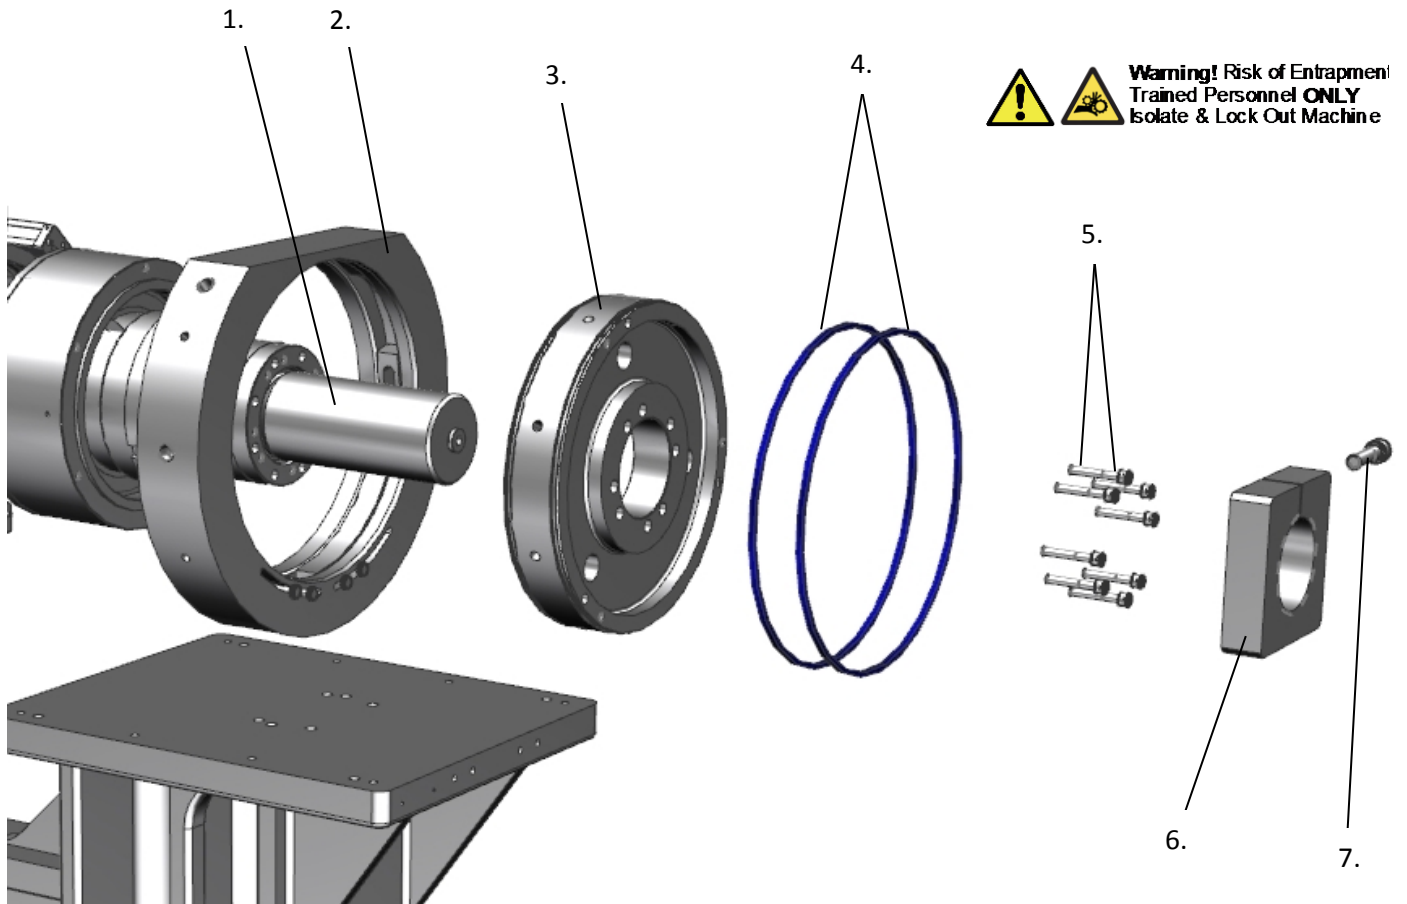

Figure 1
- Loosen the pinch bolt (Figure 1(7)) securing the collar (6) around the main shaft (1). Remove the collar.
- Remove 8 x cap head screws (5) securing the spigot timing ring (3) in position. Carefully remove the spigot timing ring, complete with used seals.
- Re-assemble all components making sure that the spigot timing ring is correctly orientated inside the outer timing ring (2) before securing in position.